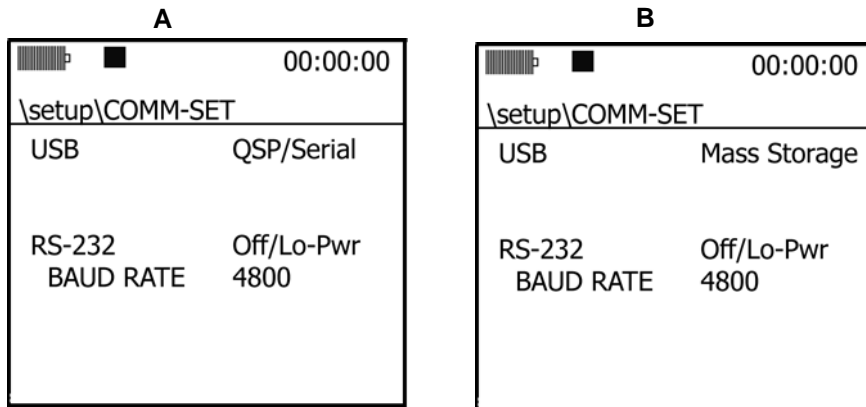

Figure 4-5: QSPII/Serial (A) and Mass Storage(B) screens
- **QSP/II/Serial** (Figure 4-5 “A”). For QSP-II communications or other supporting applications, USB should be set to QSP/Serial. The RS-232 channel should be turned off for low power consumption.
- **Mass Storage** (Figure 4-5 “B”). When the USB channel is set for Mass Storage mode the user will have direct access to the instruments SD card through programs such as “Windows file manager”. Much the same way a small pocket USB flash drive operates. When obtaining data from the Verifier via Mass Storage, it is important to remember that the data obtained is in Native Verifier SES format. A File Converter Tool is available to enable you to export the data into Excel. (Please see “File Converter Tool” for more information.)